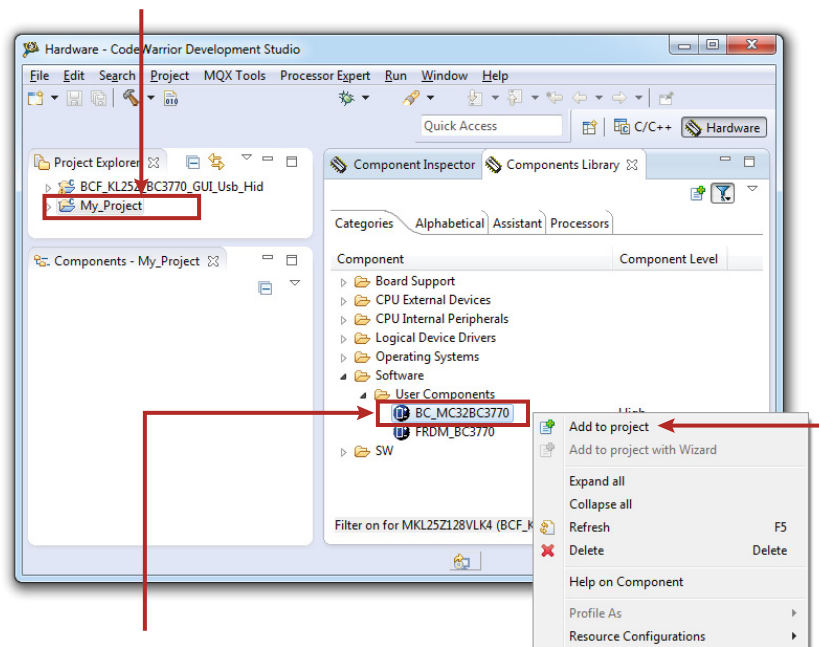

Figure 27. Add the BC3770 component to the project
1. Find the BC3770 component in the Components Library and add it into the project (see Figure 27).